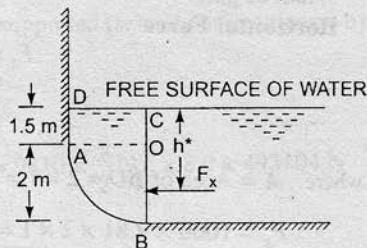

Fig. 3.29
**Problem 3.22** Compute the horizontal and vertical components of the total force acting on a curved surface AB, which is in the form of a quadrant of a circle of radius 2 m as shown in Fig. 3.29. Take the width of the gate as unity.